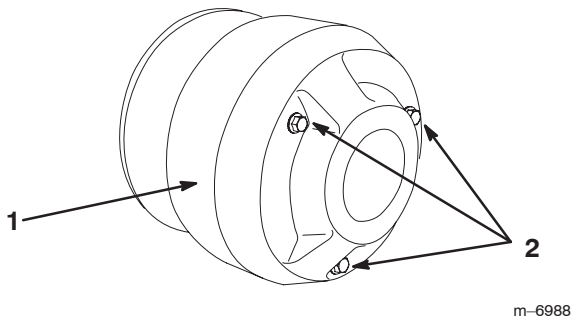

Figure 56
4. Remove the 3 bolts securing the cover to the clutch and remove the cover (Fig. 56).